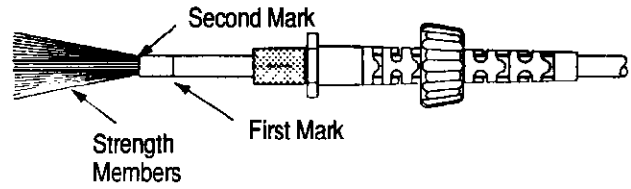

Figure 5
3. Strip the outer jacket to the SECOND mark using the cable stripper. See Figure 5.